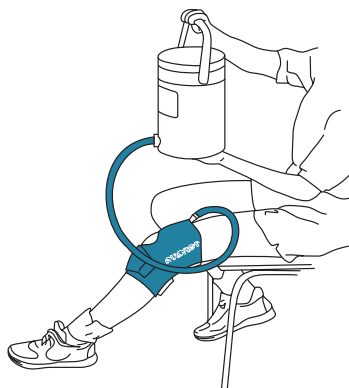

Figure 3
| 3. Fill and pressurize Cryo/Cuff (Figure 3)..... | 4 |
3. Fill and pressurize Cryo/Cuff (Figure 3)